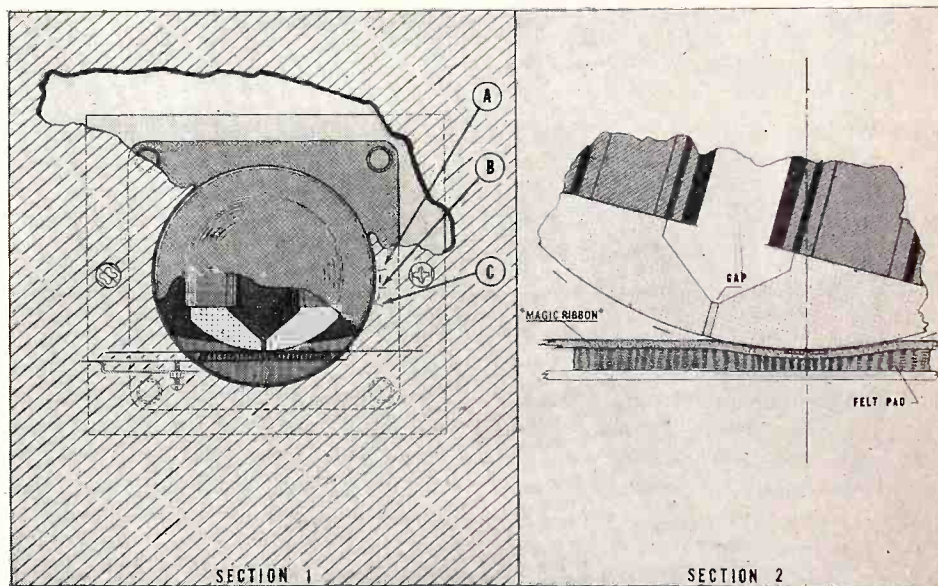

Fig. 1. Record-Play head adjustment.
Improper head alignment causes faulty operation of any tape recorder. Normal position for the Record-Play head is shown in Fig. 1. The cut-away shot of Section #1 of this figure shows how the pole pieces should contact the tape. It is important to check this position so as to avoid the abnormal position shown in Section #2 of Fig. 1. Such a condition would prevent the gap from contacting the tape with the possible result of no signal recorded or at least a severe loss of highs. To guard against this condition take the following steps:
1. Place a mark on the panel at point B (Fig. 1 Section 1) to identify the position for minimum hum as determined for previous rotation of the head. This mark should be made in line with the end edge of the opening in the record head.